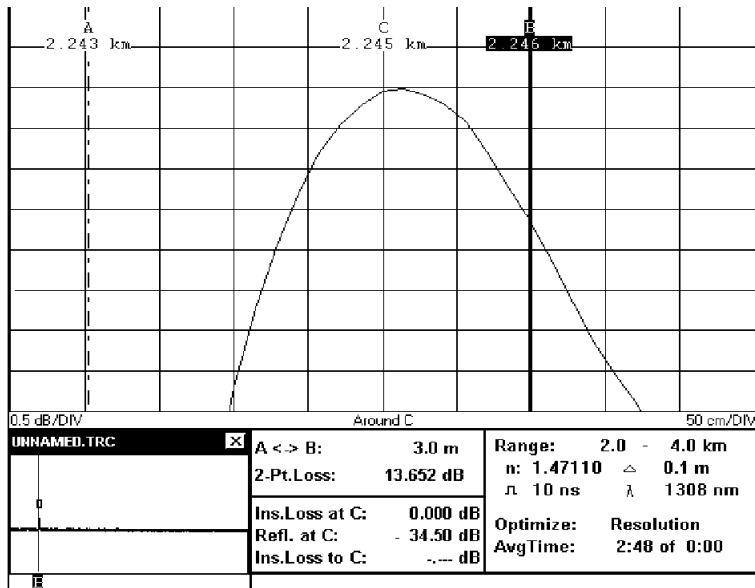

Figure D-6 Event Deadzone Test: Position Marker B
- 23 Position marker B where the down slope of the reflection crosses the horizontal center line of the graph. See Figure D-6.